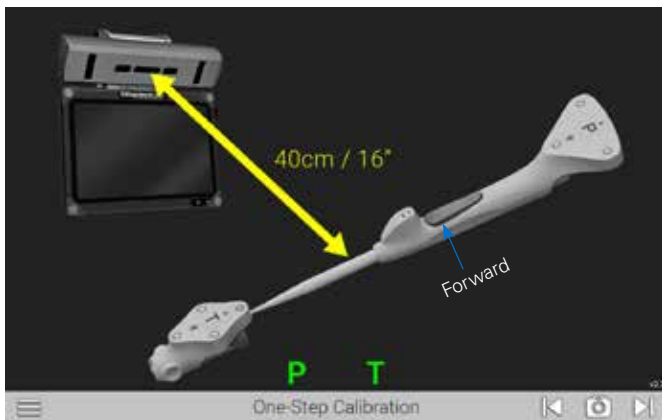

Figure 28
The One-Step Calibration screen is displayed (Figure 28). Place the tip of the Probe Tracker (P) into the dimple node at the top of the T Tracker. Hold both together **no more than** 16 inches (40 centimeters) from the display unit ensuring the white diodes are facing the camera.